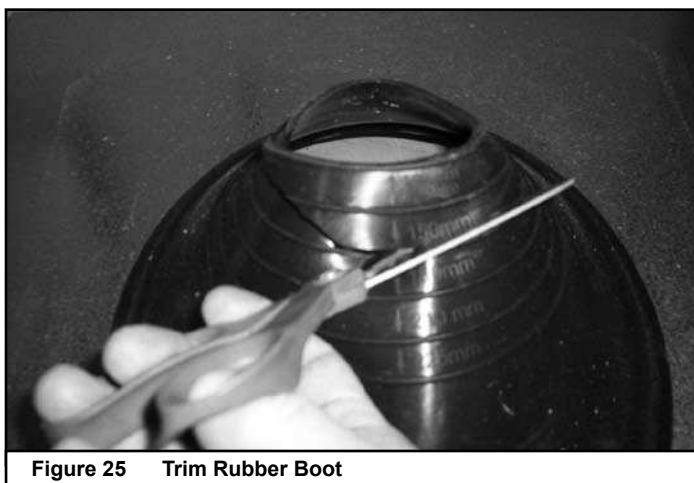

Figure 25 Trim Rubber Boot
- Trim the rubber boot (using scissors or a utility knife), cutting along the marked measurement lines. See Figure 25. Use the 150 mm line for SLP, 210 mm for DVP.